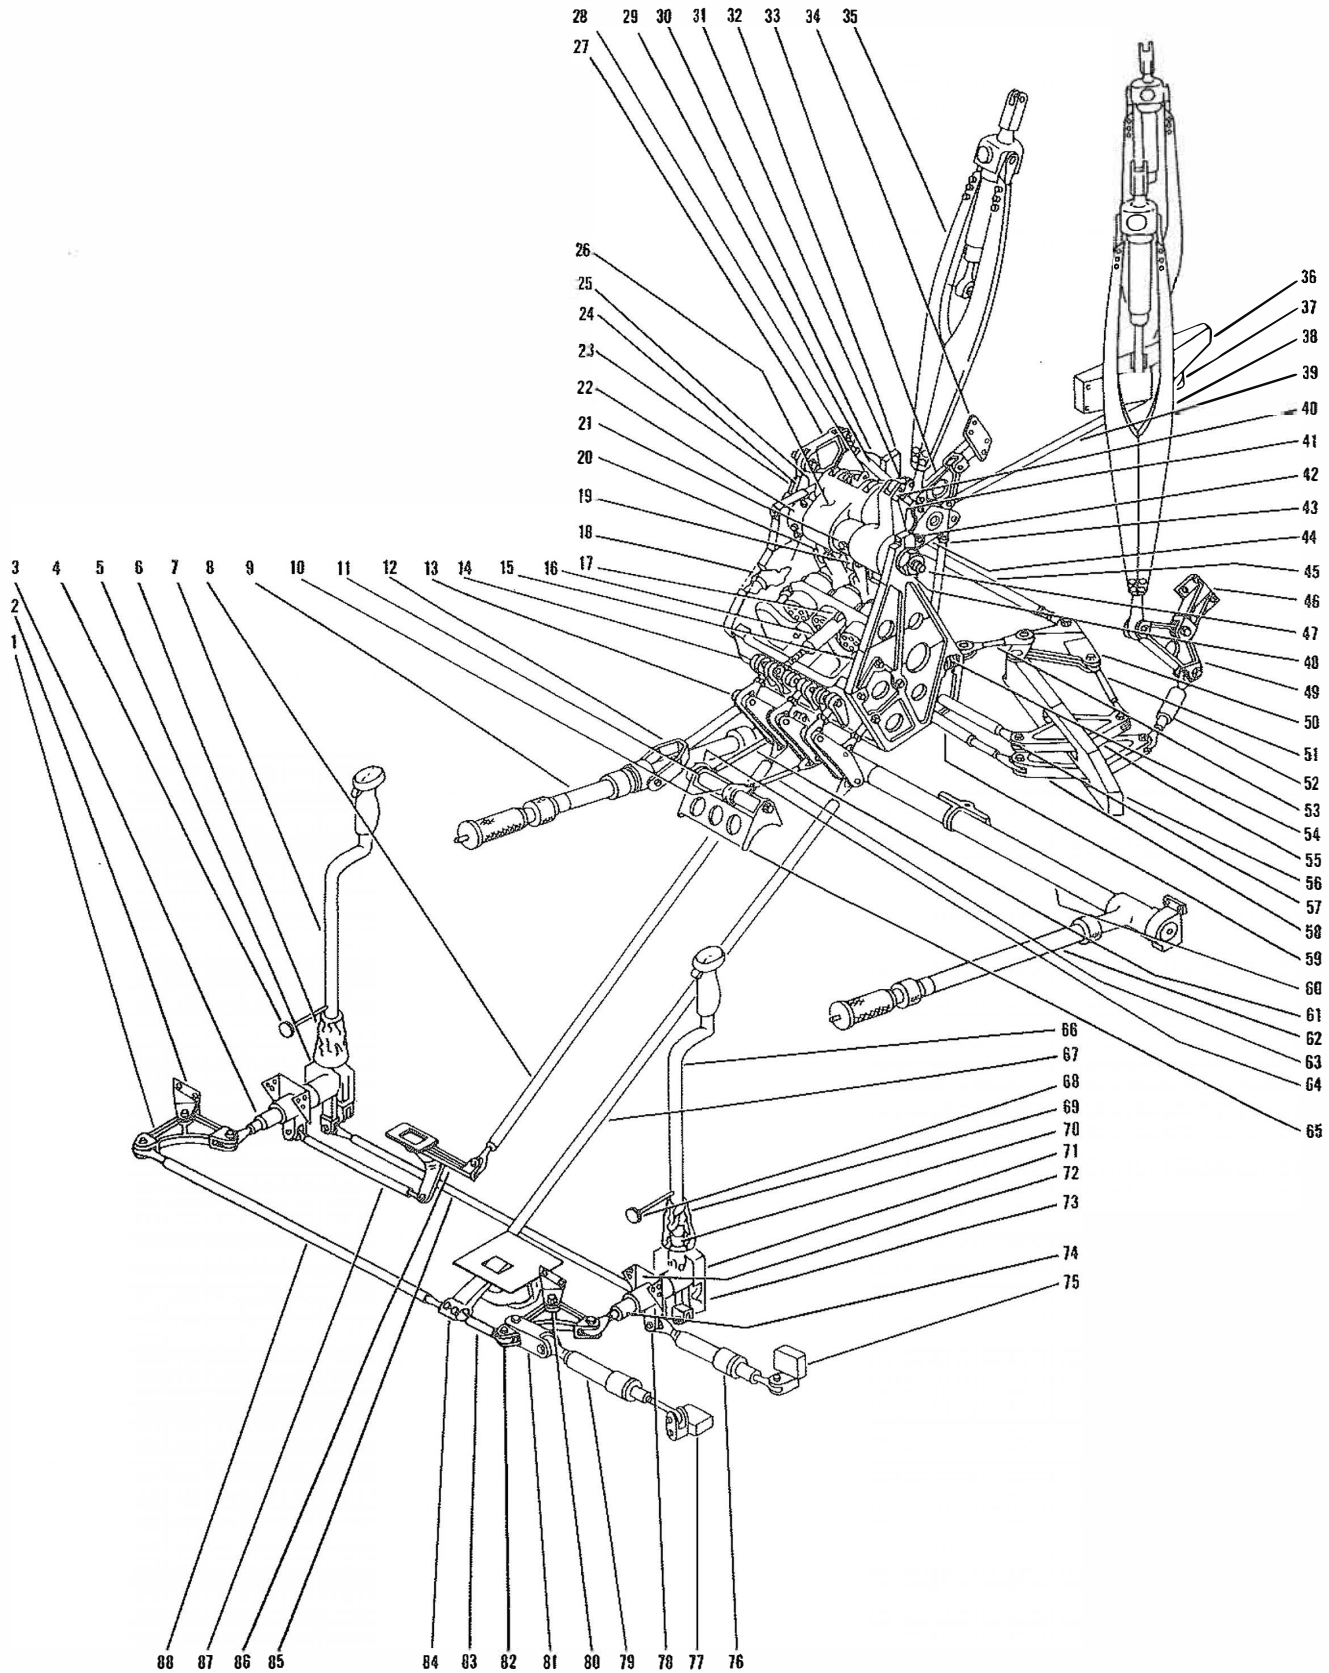

Figure 2-38. Main Rotor Flight Controls System
2-376. DESCRIPTION. (See figures 2-38 and 2-48.) The flight control system consists of the cyclic control system, collective pitch control system and the tail rotor control system. The systems, in turn, consist of a series of push-pull rods, bell cranks, servos, pulleys and cables which transmit control movements to the main rotor and to the tail rotor. The cyclic and collective control systems provide directional and vertical control. The tail rotor control system compensates for main rotor torque and provides a means for changing the heading of the helicopter. The flight control system contains two
2-378. DESCRIPTION. (See figure 2-38.) The cyclic control system provides directional control for the helicopter. The cyclic control system consists of the following components: a pilot's and observer's cyclic control stick, a socket and yoke located at the base of each control stick, push-pull rods extending from the socket and yokes to bell cranks and the mixing unit and push-pull rods extending from the mixing unit to bell cranks and the main rotor servos. Moving the control stick in any direction tilts the tip-path plane of rotation of the main rotor blades in that direction and moves the helicopter in the same direction. The grip of each control stick contains a trigger-type microphone and radio switch, a cargo release switch and a stick trim switch.
a. Disconnect the pilot's and observer's cyclic control stick electrical wiring at the disconnect plugs (4 and 68, figure 2-38) located a few inches forward of the control sticks. Remove the boots (6 and 69).
b. Back off the knurled nut securing the observer's cyclic control stick (66) to the socket (70) of the observer's socket and yoke assembly. Remove the control stick by sliding it up and out of the socket.
c. Unbolt the pilot's cyclic control stick and socket (7) from the yoke of the pilot's support and yoke assembly (5). Remove the control stick by sliding it up and out of the yoke.
f. Disconnect and remove the rod (88, figure 2-38) which extends from the bell crank (84) to the bell crank (1). Disconnect and remove the rod assembly (83) which extends from the bell crank (84) to the bell crank (82).
g. Disconnect and remove the rod (85) which extends from the observer's socket and yoke assembly to the pilot's support and yoke assembly (5). Disconnect and remove the rod (87) which extends from the bell crank (86) to the pilot's support and yoke assembly (5).
h. Disconnect the rod (8) which extends from the bell crank (86) to the auxiliary servo unit assembly (13). Disconnect the rod (67) which extends from the bell crank (84) to the servo unit assembly (13). Remove the main drive shaft tunnel extension cover from the cabin forward bulkhead and pull out both rods (8 and 67).
i. Remove the bolt, washers, spacers and nut which secure the universal (81) to the bell crank (82) to disconnect the universal.
j. Disconnect the cylinder (76) at the yoke (78).
m. Cut the lock wire and remove the bolts, washers and nuts securing the bell crank (84) and support. Remove the bell crank and support. Disassemble the bell crank and support by removing the bolts, washers and nuts which secure the bell crank to the supports.
n. Remove the bolts, washers and nuts securing the bell crank (86) and remove the bell crank with the supports attached. Disassemble the bell crank (86) by removing the bolts, washers and nuts which secure the bell crank to the supports.
o. Remove the bolts, washers and nuts securing the support (72) in position. Remove the support (72), yoke assembly (71) and socket (70) as a unit.
p. Remove the cotter pin and nut securing the support (72) to the yoke assembly (71). Remove the socket (70) from the yoke assembly by removing the bolt, washers, nut and cotter pin which secure it to the yoke.
s. Hinge down the service platforms. Disconnect and remove the rod (57) which extends from the bell crank (55) to the bell crank (54).
t. Disconnect and remove the rod (59) which extends from the bell crank (58) to the bell crank (20).
u. Disconnect and remove the rod (51) which extends from the bell crank (55) to the bell crank (50).
v. Disconnect and remove the rod (52) which extends from the bell crank (58) to the bell crank (49).
w. Disconnect and remove the rod (45) which extends from the bell crank (50) to the bell crank (30).
x. Disconnect and remove the rod (29) which extends from the bell crank (33) to the bell crank (27).
y. Disconnect and remove the rod (39) which extends from the bell crank (33) to the bell crank (37).
aa. Disconnect and remove the bell crank (37, figure 2-38) from the support (36). Remove the nuts and washers securing the support (36) to the lower housing of the main gear box. Remove the support.
ag. Disconnect and remove the bell crank (30, figure 2-38) from the support (32). Remove the nuts and washers securing the support (32) to the input housing of the main gear box and remove the support.
ar. Disconnect the collective open loop spring cylinder (16, figure 2-38) from the bracket (17) at the upper end and from the center fork of the front end plate of the servo unit.
a. Position the bracket (23, figure 2-38) on the support (14) and secure with the bolts, washers and nuts. Position the beam between the two supports (14 and 15) and secure the beam at either end to the supports (14 and 15) with the bolts, washers and nuts.
c. Position the bracket (17, figure 2-38) on the servo unit and bolt it in place.
d. Install the collective open loop spring cylinder (16) and bolt it to the front end plate and to the support bracket (17).
e. Install the bearing and spacer on the shaft (47, figure 2-38). Slide the arm (22) and the bell crank (26) onto the shaft. Slide the arm (21) and the bell crank (40) onto the shaft. Install the washers, bearing, nut and cotter pin (48). Secure the arms (21 and 22) in position on the shaft (47) with the taper pins, washers and bolts.
f. Install the two bell cranks (44) on the arm (21). Install the bell crank (28) on the arm (22). Install the three rods (31).
g. Place the mixer assembly in position on the supports (14 and 15) and install the caps (42 and 25). Tighten the bolts securing the cap (42) to the support (15) with 80 to 100 inch-pounds torque. Tighten the bolts securing the cap (25) to the support (14) with 320 to 390 inch-pounds torque.